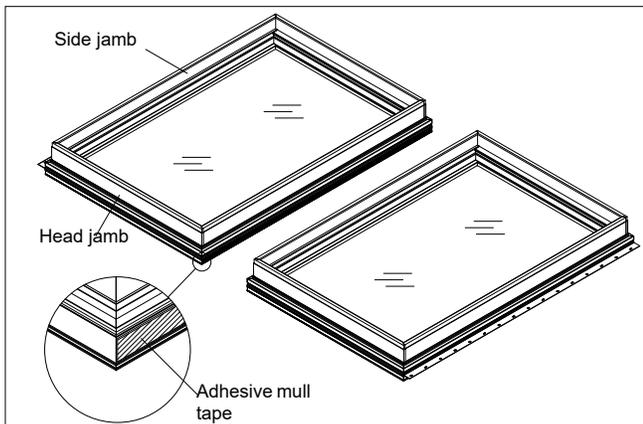

Figure 1
1. Lay frames on a flat surface in the desired mulling configuration (interior facing up). Remove nailing fin and/or drip cap from head jamb, sill, and side jambs that will be mulled together. Apply mull sealant foam tape the entire length of the one jamb to be mulled ensuring that it is located 1/4" (6) from the exterior edge of the Ultrex® frame as shown in figure 1.
- Apply mull sealing tape the full length of the head jamb of the lower 2 wide casement assembly ensuring that it is located 1/4" (6) from the exterior edge of the Ultrex frame similar to figure 1.